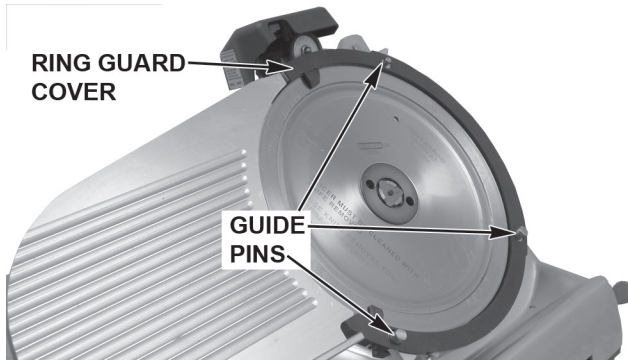

Fig. 20
- Install the Ring Guard Cover on the three Guide Pins (Fig. 20).